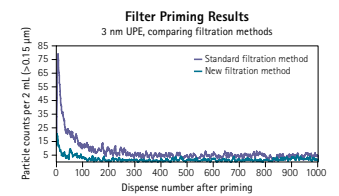
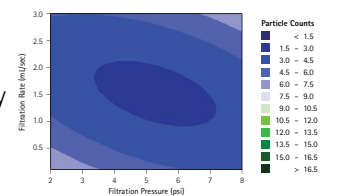

Fig. 3. Particle decreasing curves comparison of current & new filtration methods
Fig. 5. Contour plot of particle performance using new filtration method
- ▶ Fig. 3 - 5 shows the effect on particle results after filter change with the different filtration methods. The darkest blue area in the center of Fig. 5 shows not only particle performance of >0.5 particles per 2 mL, but overall, the total region of acceptable particle performance (< 2 particles per 2 mL) is much wider, allowing the use of faster filtration rate.